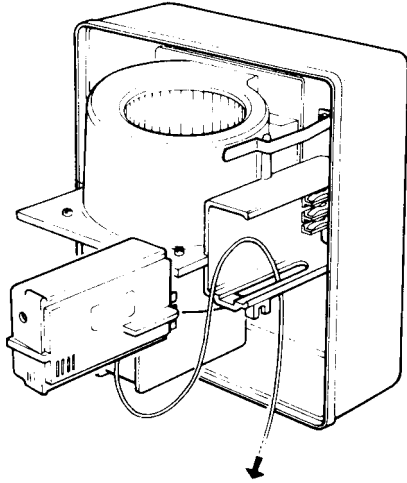

Fig. 5. Feeding the pullcord through the housing.
12. Fit the fan assembly to the case, securing it with the two spring clips. Install the electronic control module ensuring that it is fully engaged in the internal socket. If the pull-cord option is required it should be fed through the hole in the impeller housing before sliding the control module into place, see Fig. 5. (If the pull-cord option is not required the cord must be removed, see warning note on page 1).
- Replace the front cover using two screws previously removed. Ensure pull cord (if fitted) passes through the slot in base. (Fig. 2 and Fig 5). Fit the filter which is a push fit between the front cover and body of the unit.